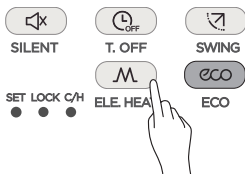

Figure 3.19
1) In Heating Mode, Press  the button (see Figure 3.19), and the screen will display the icon “ \mathcal{M}^{on} ”, the signal is sent to the indoor unit ;